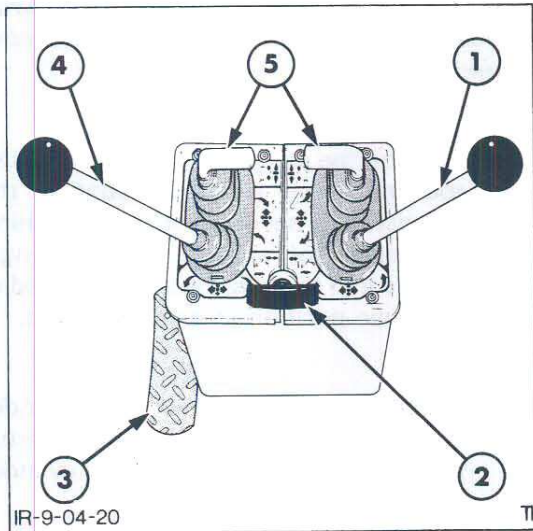

Figure 38
3. Unscrew the control lever knobs and remove the rubber gaiters, Figure 38.